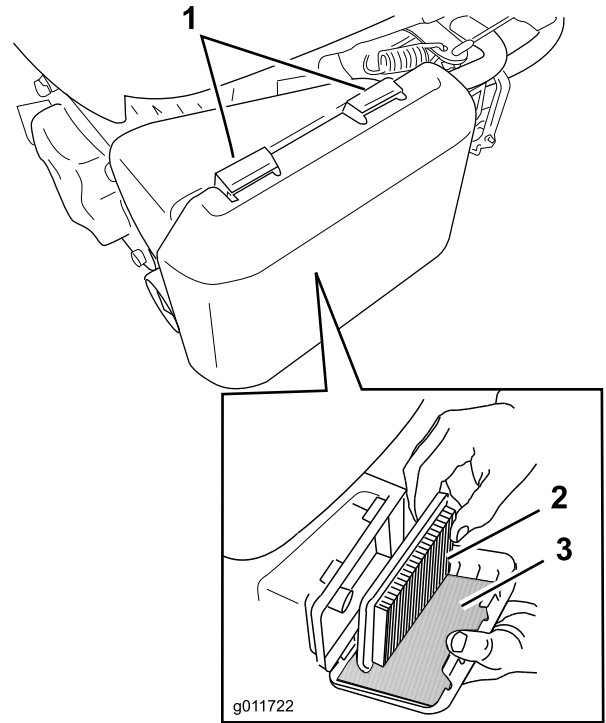

Figure 30
1. Press down on the latch tabs on top of the air-filter cover (Figure 30).
3. Remove the paper air filter and the foam pre-filter (Figure 30).